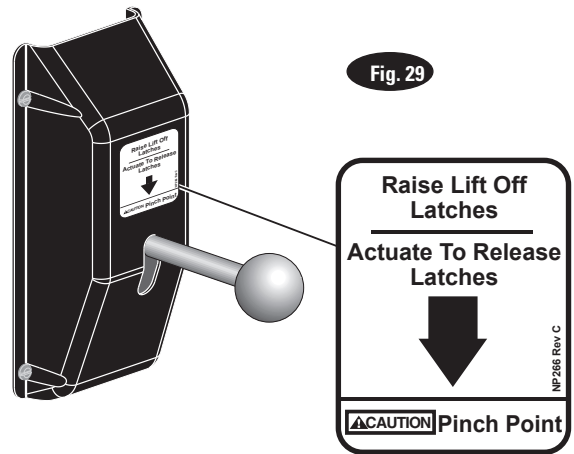

Fig. 29
**25. Latch Release Decal:** Install latch release decal on cover above latch release handle, Fig. 29.